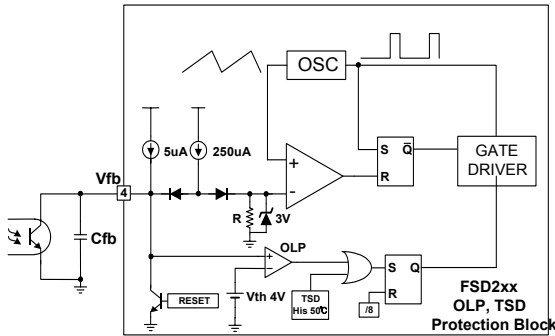

Figure 4. Protection block
4. Protection Circuit : The FSD200/210 has 2 self protection functions: over-load protection (OLP) and thermal shutdown (TSD). Because these protection circuits are fully integrated into the IC with no external components, system reliability is improved without cost increase. If either of these functions are triggered, the FPS starts an auto-restart cycle. Once the fault condition occurs, switching is terminated and the MOSFET remains off. This cause Vcc to fall. When Vcc reaches the UVLO stop voltage (6.7:FSD210, 6V:FSD200), the protection is reset and the internal high voltage current source charges the Vcc capacitor. When Vcc reaches the UVLO start voltage (8.7V:FSD210, 7V:FSD200), the device attempts to resume normal operation. If the fault condition is no longer present start up will be successful. If it is still present the cycle is repeated. This is shown in Figure 4.